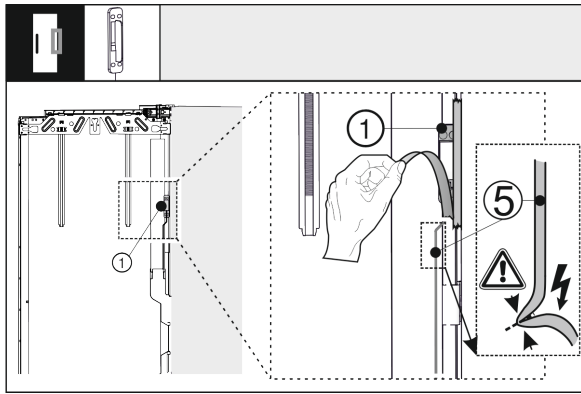

Fig. 40
- Remove the knocking sensor Fig. 40 (1) from the outer door. Do not damage the connection cable Fig. 40 (5).